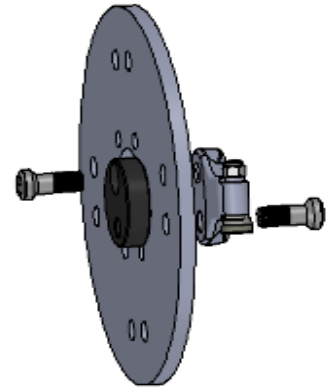

Figure 1.1
5. With the pocket on the right side of the wheel, slide the bolts of the **LoPro®** straight pocket through the empty holes in the wheel and thread it into the adjacent **LoPro®** block's threaded holes. For now, firm up the bolts until this set is seated. (Figure 1.1)